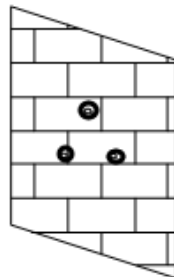

FIG.3
3. Fix two screws of the lower-most mounting into the hole locations, do not tighten the screws fully, leaving some head space for hooking the fixture arm. (FIG.3)